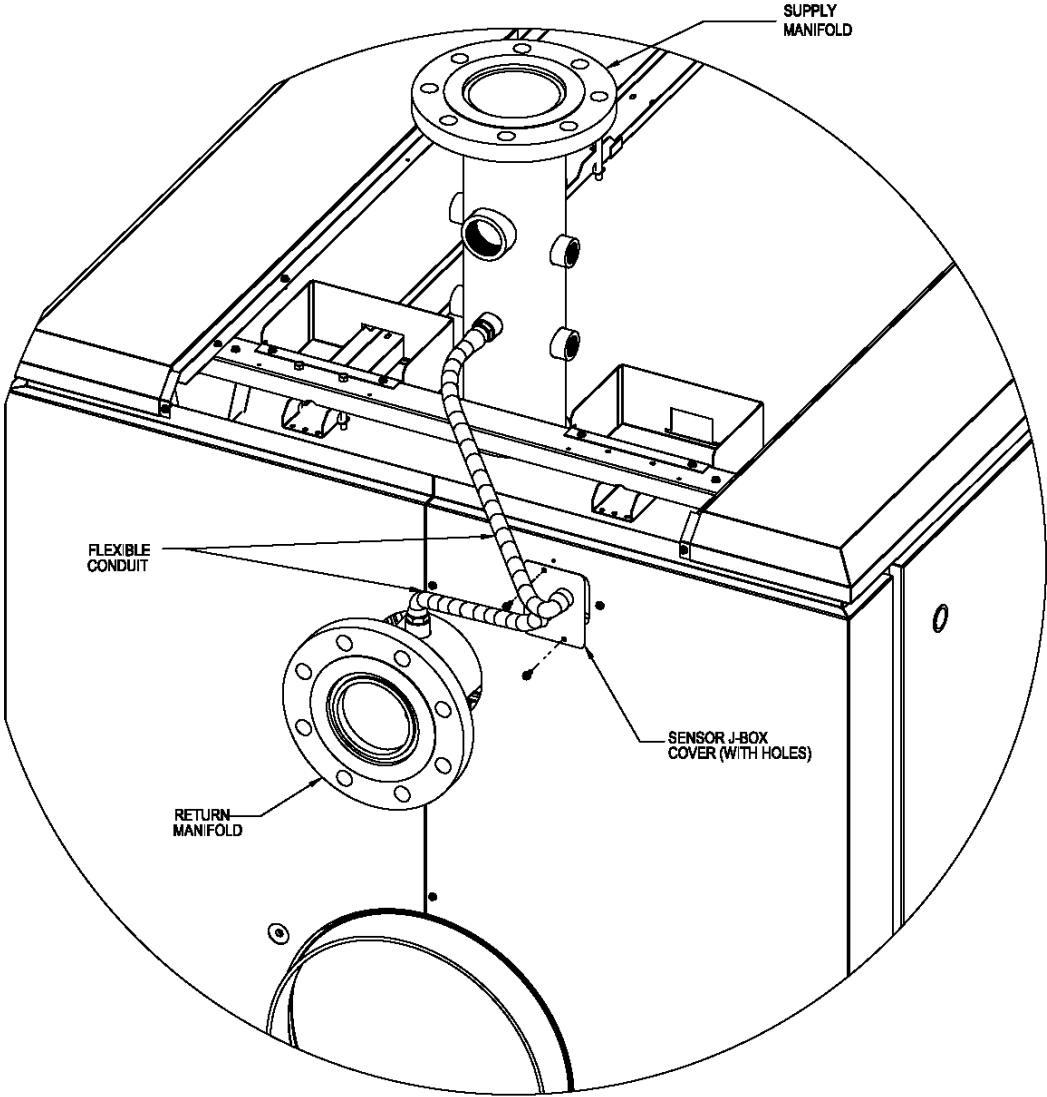

Figure 2: Installation of SBC Components (Part 2)
- d. Mount the sensor J-box cover to the right rear panel using two (2) of the #8 x ½” lg. hex head SMS provided. See Figure 2. Make sure that all of the exposed wires fit inside of the sensor J-box and that none of them are pinched once the cover plate is installed.